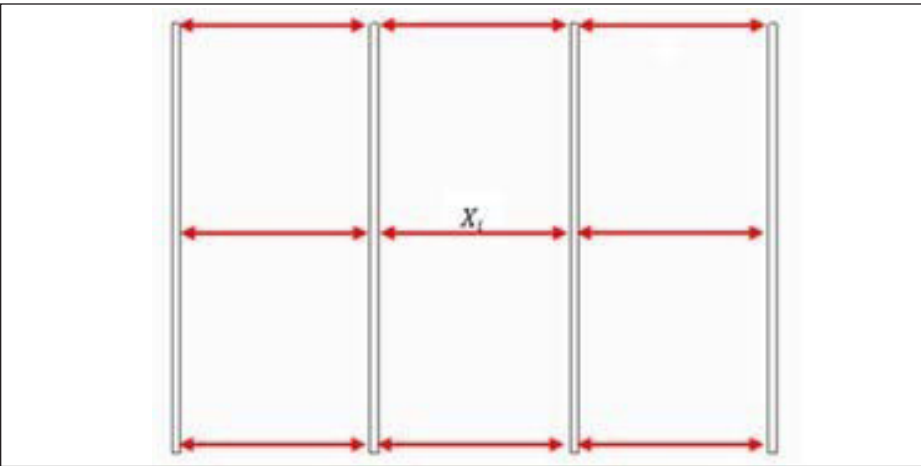

Figure 29: Vertical Level Verification (Front View)
- 1. Inspect the level of the vertical sections by taking measurements of the horizontal intervals between vertical columns. Use at least three equally spaced horizontal measurements. Refer to **Figure 29**.